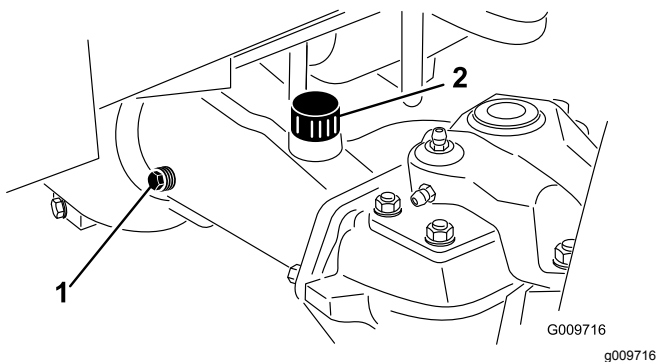

Figure 62
2. Remove a check plug (Figure 62) from 1 end of axle and make sure lubricant is up to the bottom of the hole. If the level is low, remove the fill plug (Figure 62) and add enough oil to bring the level up to the bottom of the check plug holes.